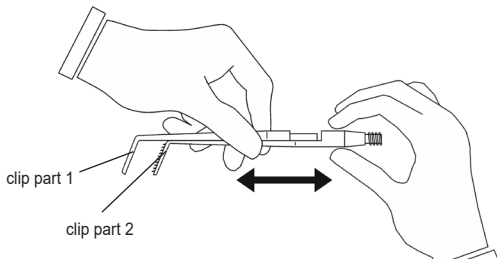

Fig. 4a
- Separate the clip parts (1) and (2) (fig. 4a and 4b).